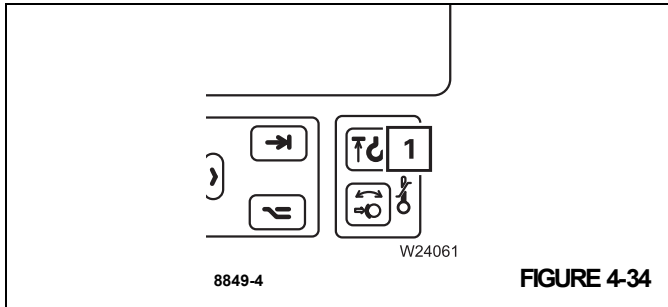

FIGURE 4-34
- Ensure hoist up, boom lower and tele extend are locked out, the hoist limit indication (1), (Figure 4-34) is illuminated, and the operator display buzzer is on. If so the anti-two-block switch is determined to be functioning properly.